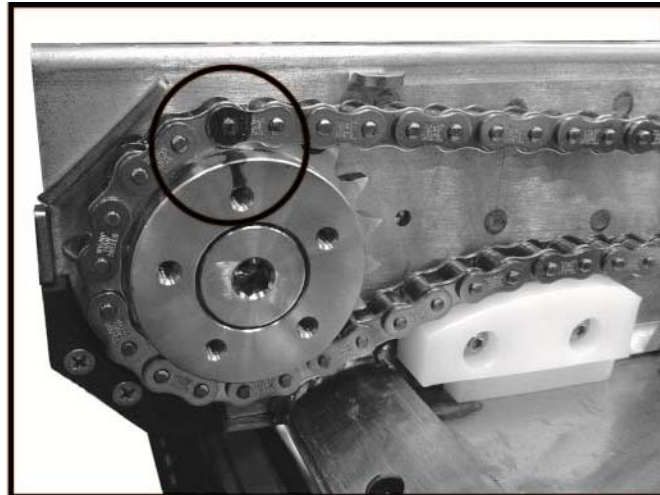

FIGURE 2-6: IDENTIFY LINK ALIGNMENT (RH SIDE SHOWN)
- d. Refer to **Figure 2-6**. Identify Chain and Sprocket alignment marks on LH and RH chain assemblies.